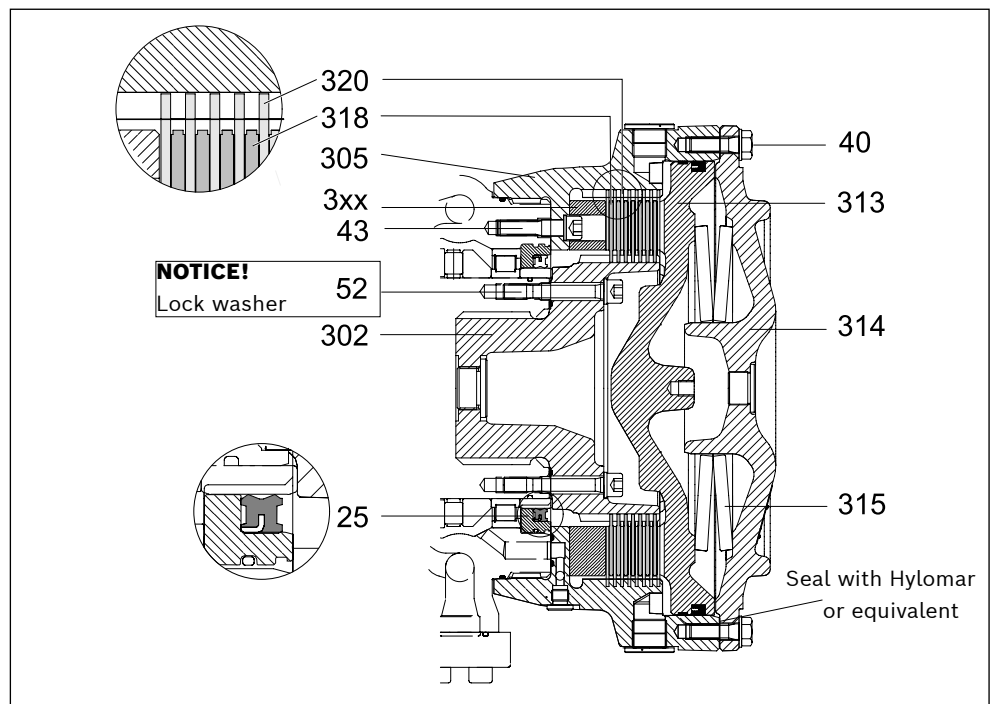

Fig. 46: Parts in MDA 5, MDA 7 and MDA 10
- ▶ The M12 thread in the center of the brake piston can not be used to release the brake mechanically or hold spring force while removing the screws (40), see Fig. 46